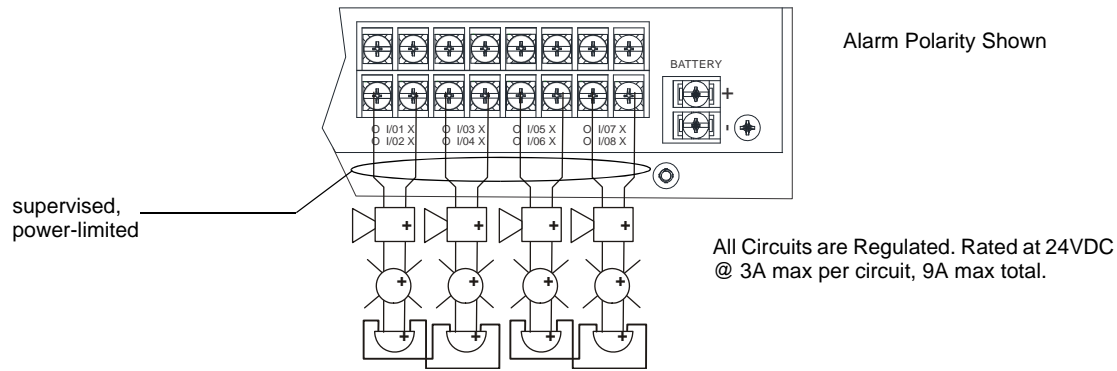

Figure 4.39 Class A Notification Appliance Circuit Wiring
1. Wire the Class A notification appliances as shown in Figure 4.39.
NOTE: In programming any point that uses multiple Flexput circuits, the lowest Flexput circuit number is used to refer to the circuit pair. For example, Figure 4.39 uses both Flexput circuit 1 and 2, so in programming, these would be referred to as point 1.